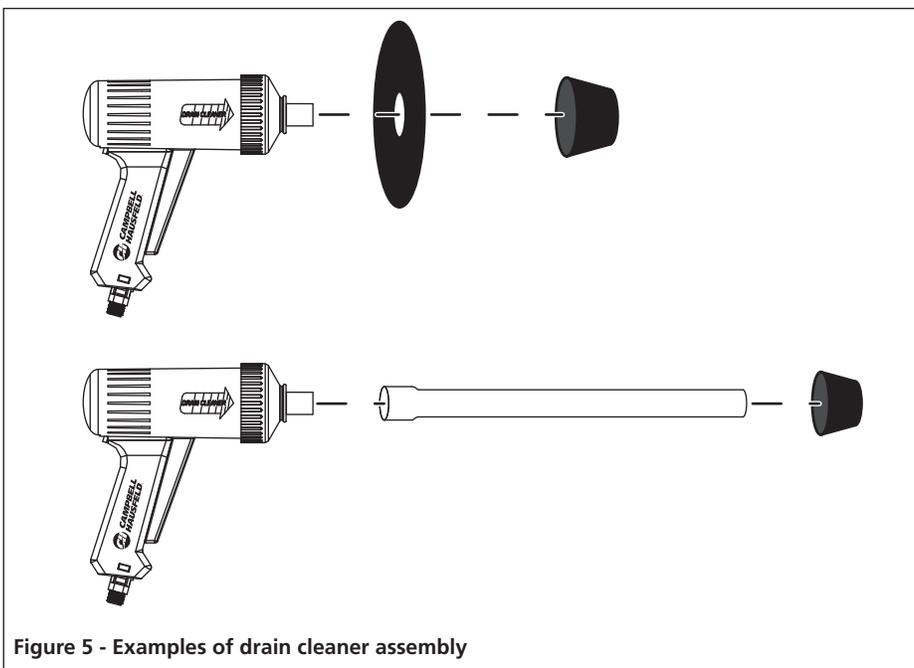

Figure 5 - Examples of drain cleaner assembly
**NOTE:** See Figure 5 for examples of the assembly for the drain cleaner with and without the extension tube and splashback shield.